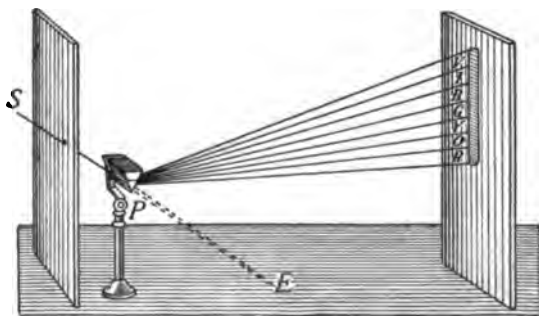
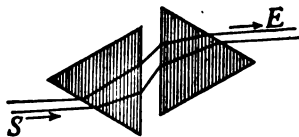

FIG. 400.—Formation of the spectrum by a prism.
FIG. 401.—The colors of the spectrum recombine to form white light.
*trum*, the many-colored image upon a screen produced by passing a beam of light through a prism. The spectrum is best shown when the light enters by a narrow slit (Fig. 400). The spectrum was first produced by Sir Isaac Newton in 1675 by the means just described. The names usually given to the more prominent colors of the spectrum are violet, indigo, blue, green, yellow, orange, and red. The initials of these names, combined, spell *vibgyor*, a word without meaning except to assist in remembering the order of the colors in a spectrum. If the light that has passed through a prism is sent through a second prism placed in reverse position (see Fig. 401), the light passing through both prisms is found to be white. This experiment indicates that white light is composed of light of all colors.
**404. Complementary Colors.**—If two prisms are placed in reversed position near each other (see Fig. 401), a beam of light dispersed by one is recombined into white light by the other. If now a card is held between the two prisms so as to cut off some of the colored light, say the red, the remaining light will be found to form a *greenish blue*. If the card is removed, the light becomes *white* again. That is, red and *peacock blue* light together form white. Any two colors that together form white light are called *complementary*. Other complementary colors are light yellow and blue, green and crimson, orange and greenish blue, violet and greenish yellow. We must not confuse the combining of colors (light) and the combining of *pigments*, the latter consisting of bodies that absorb light. Yellow pigment absorbs all but yellow and some green, while blue pigment absorbs all but blue and some green. Mixing these two pigments causes the absorption of all colors but *green*. Blue and yellow *paint* mixed produce *green*, while blue and yellow *light* give white.